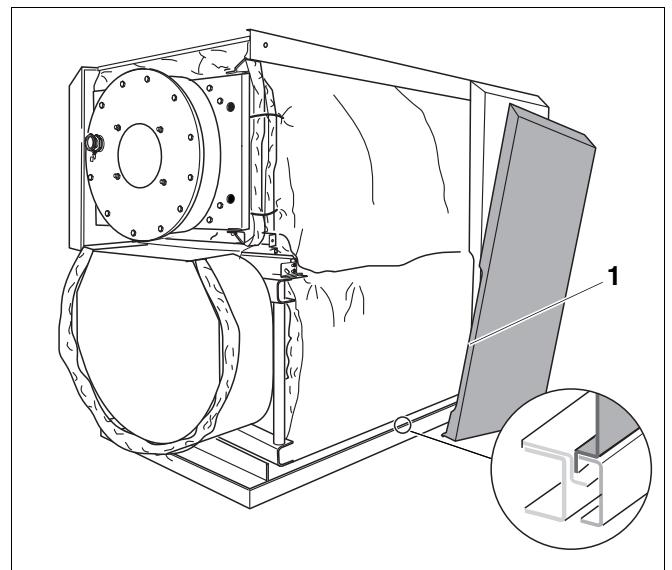

Fig. 21 Hooking side panels at the bottom
- Hook bottom of rear and middle side panels into the folded edge between plinth panel and spacing plate (Fig. 21).